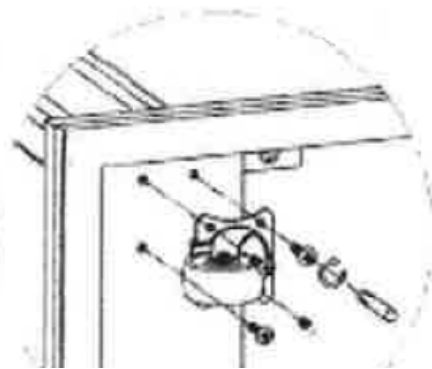

Figure 2
1. Carefully turn the fireplace on its back onto a towel to prevent any damage. See Fig 2 below.
2. Mount each castor (4) in the predrilled holes. Tighten screws. See Fig 2 below.